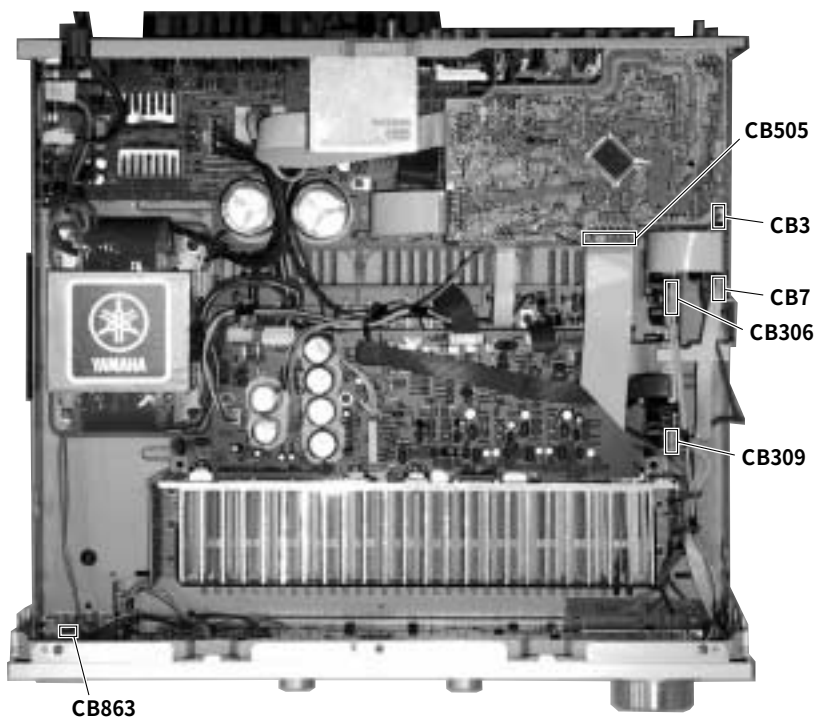

Fig. 7
- Remove connectors CB863 (3P), CB505 (21P), CB306 (8P), CB309 (5P), CB3(3P) and CB7 (6P). (Fig. 7)
- コネクタ-CB863 (2P)、CB505 (21P)、CB306 (8P)、CB309 (5P)、CB3 (3P)、CB7 (6P)を外します。(Fig. 7)